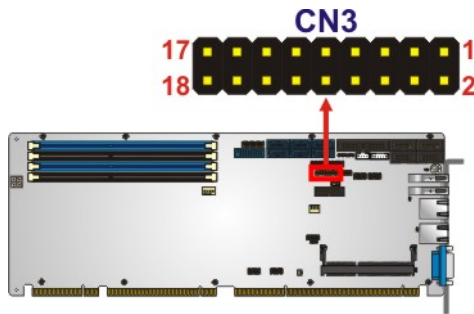

Figure 3-8: EC Debug Connector Location
- CN Location:** See **Figure 3-8**